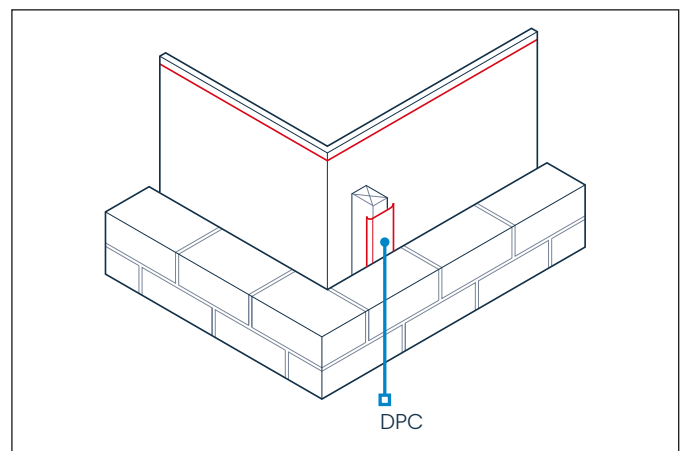

Figure 2 – Vertical timber cavity barrier
- Vertical timber cavity barriers – vertical timber cavity barriers should be protected from moisture with a DPC installed over the face in contact with the masonry cladding. See Figure 2.